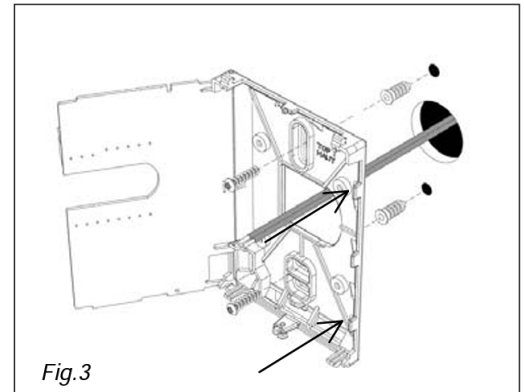

Fig.3
- 1- Swing open the humidistat PCB to the left by pressing the PCB locking tabs. **(Fig. 3)**
(Fig. 3)